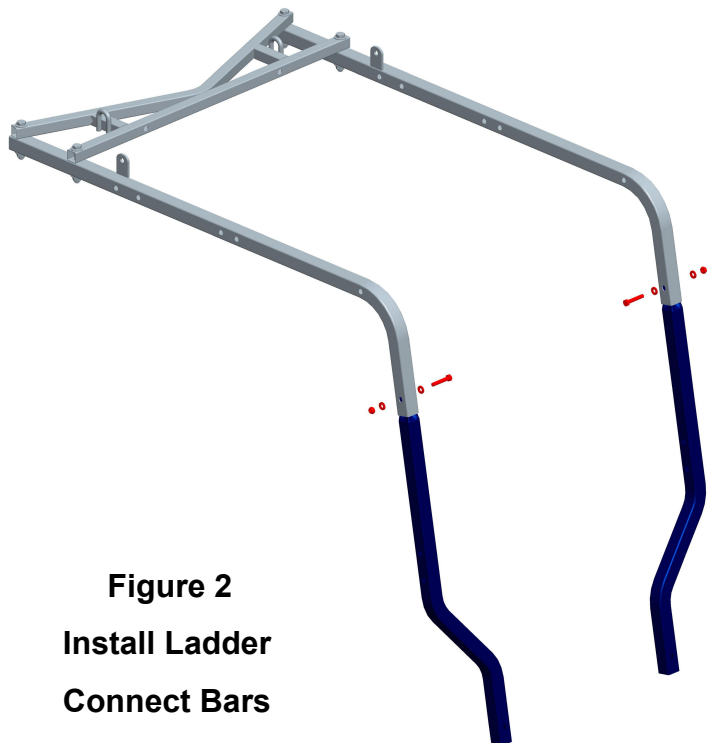

Figure 2
Locate two Ladder Connect Bars (#6). Install the Ladder Connect Bar (#6) onto Left Bending Bar (#2) and Right Bending Bar (#3) using two (2) M6x35 Bolts, four (4) Steel Washers and two (2) Locknuts as shown in Figure 2. Securely tighten bolts.